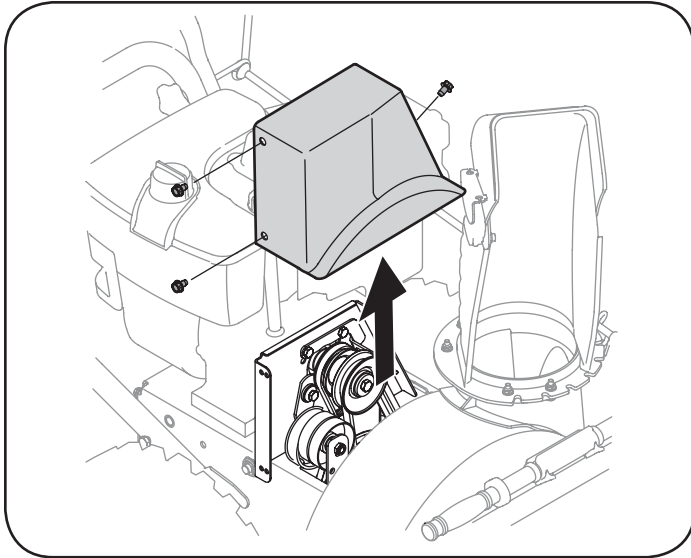

Figure 22
2. Remove the plastic belt cover, located near the engine, by removing the three self-tapping screws that secure it. See Figure 22.